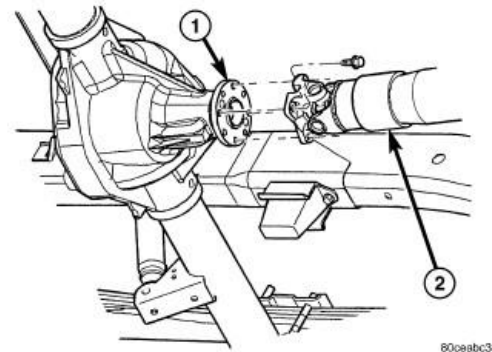

Figure 12 – Pinion Flange
28. Remove pinion flange (1) bolts from propeller shaft (2) (Figure 12).